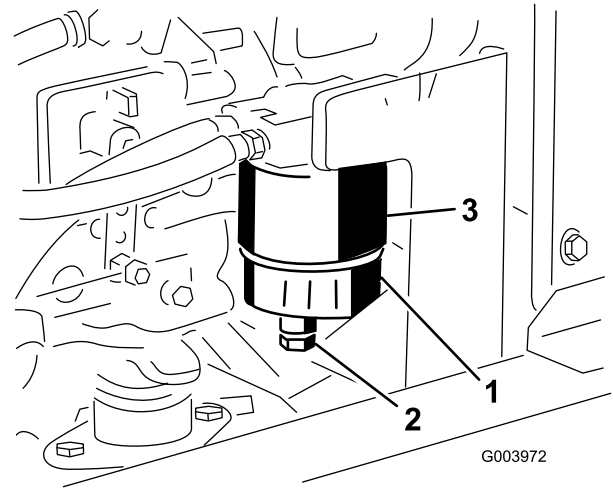

Figure 63
Drain water or other contaminants from water separator (Figure 63) daily.
2. Loosen the drain plug on the bottom of the filter canister and allow it to drain (Figure 63).
Replace the filter canister (Figure 63) after every 400 hours of operation.
1. Clean the area where the filter canister mounts (Figure 63).